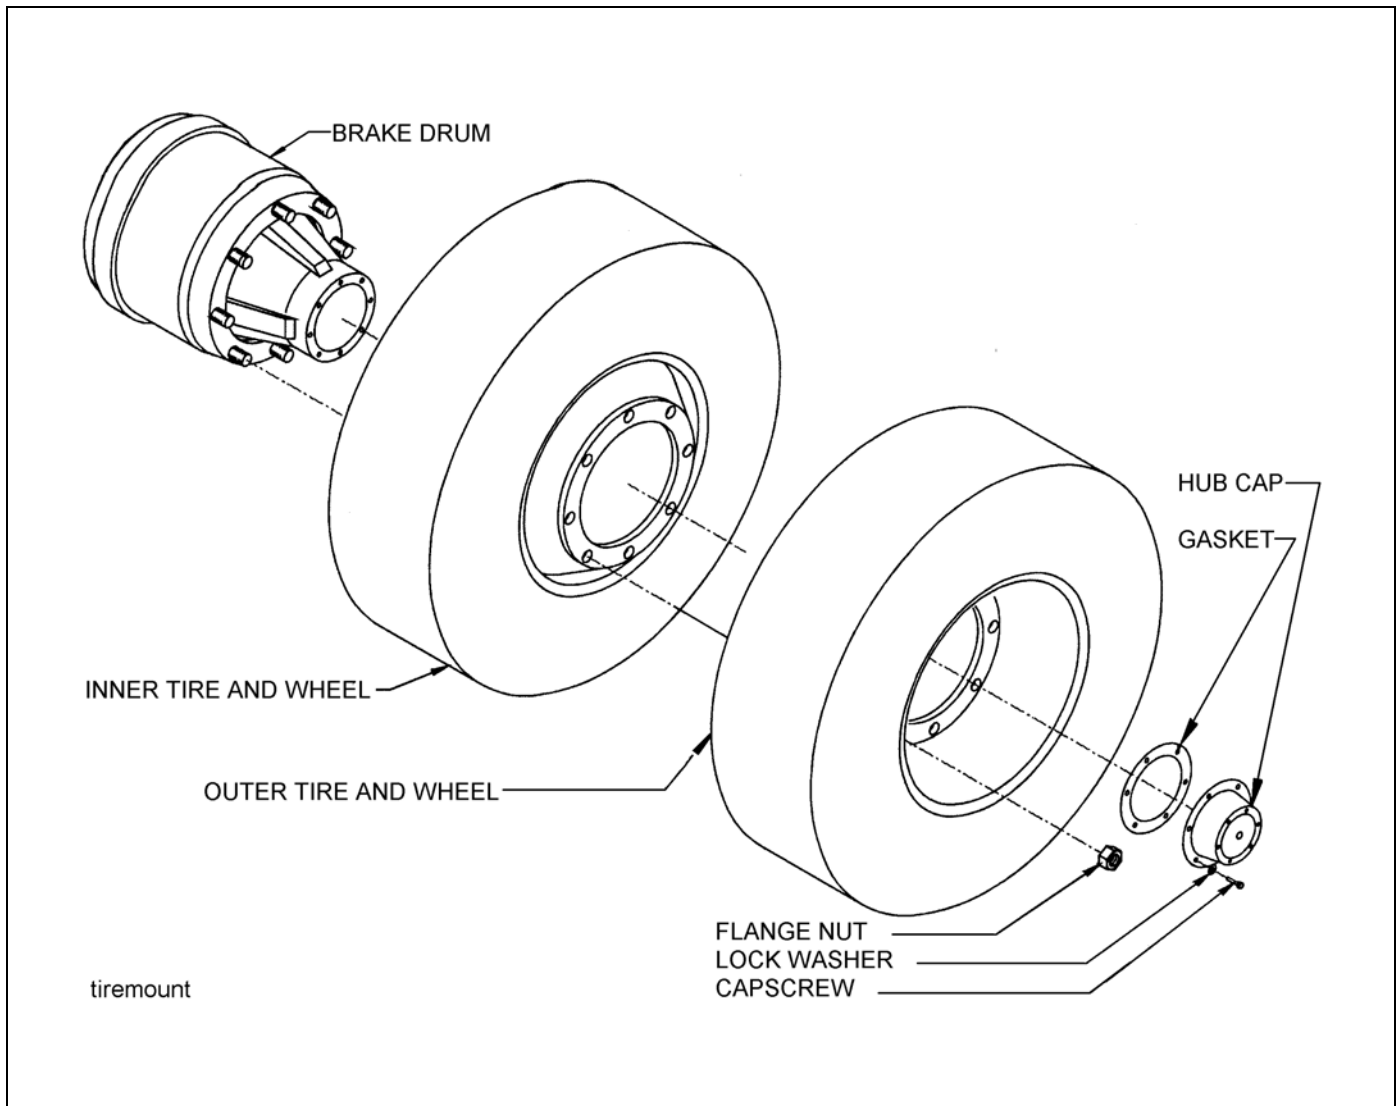

Figure 4-16: Mounting Tires and Wheels
1. Make sure that all mounting surfaces are clean and free of rust, dirt or paint. A wire brush may be used to clean these surfaces **(See Figure 4-16.)**